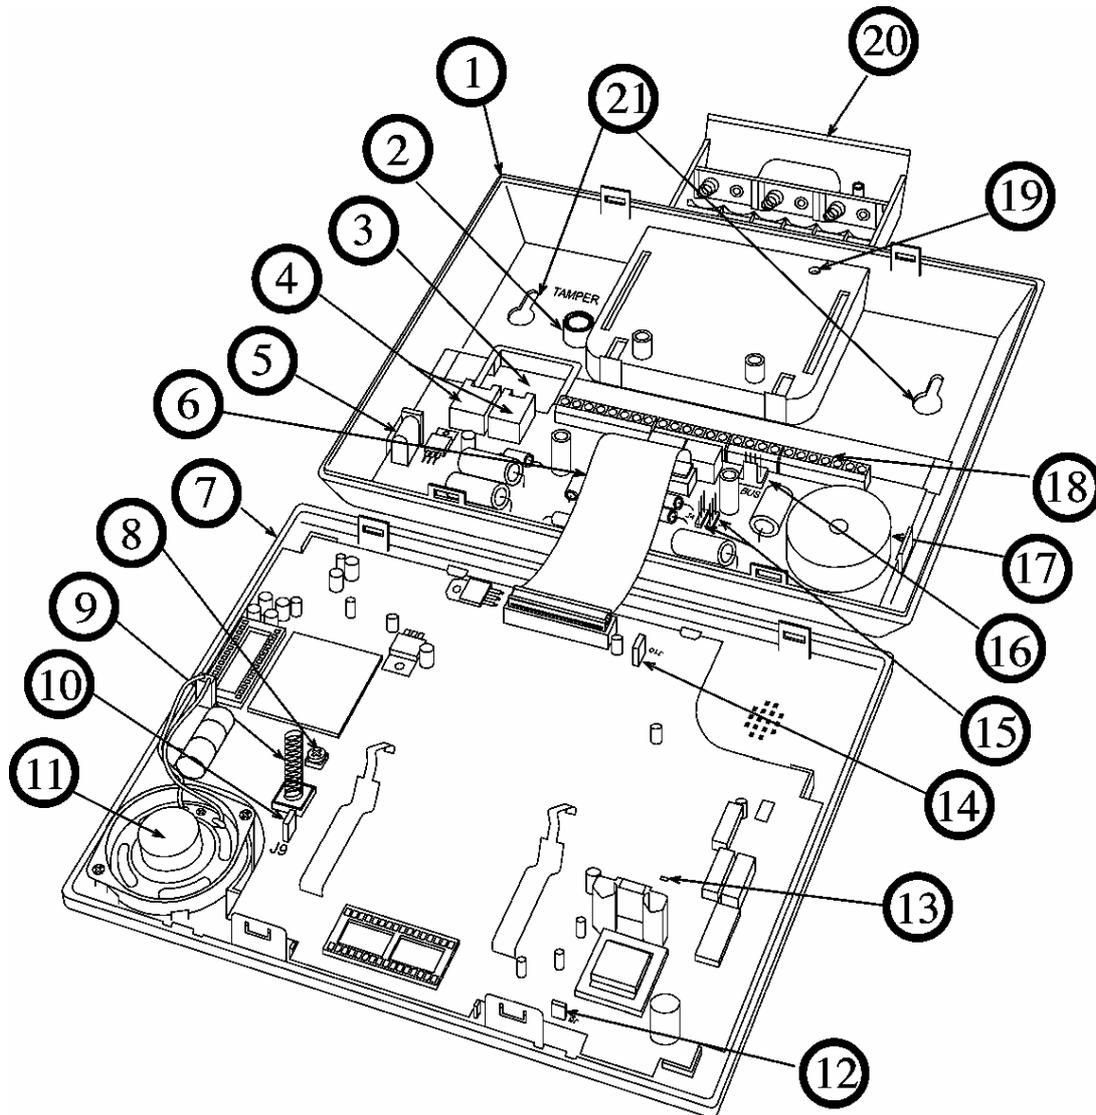

Figure 2-1: WisDom Internal components Layout
3. Pull the **WisDom** battery housing outward (See figure 2-1)